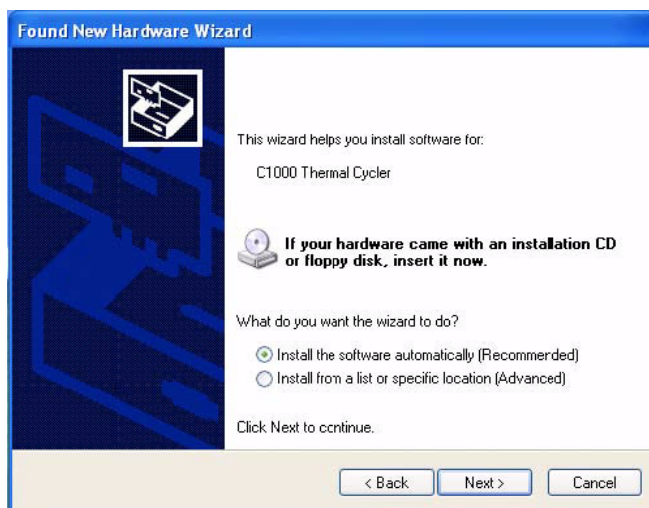

Figure 95. Driver Installation screen.
4. Instruct the wizard to install the software automatically. Select **Next** to continue installing the drivers (Figure 95). Select **Finish** at the software installation completion screen when the drivers are installed.